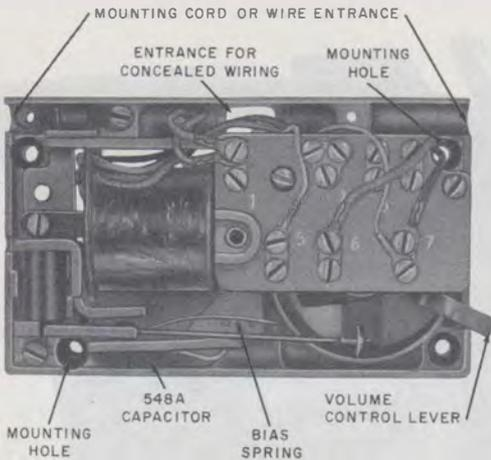

Fig. 2—E1C Ringer, Internal View
2.01 The E1C and E1D (nonmodular) ringer (Fig. 2 and 3) consists of a 7- or 10-terminal connecting block and a single-gong ringing mechanism in series with an 0.40 μ f capacitor.
2.03 The E1-type ringer is equipped with a volume control lever (Fig. 2). Volume is adjustable from OFF to LOUD. To adjust ringer to off position, refer to 3.06.
3.03 For nonmodular type ringers, the inside wire can enter the ringer from the bottom or either end (Fig. 2 and 3). The mounting cord from